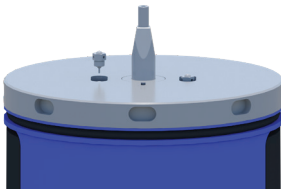

Figure 50
**5.0.4)** Hand tighten the auto-e pins into the check valves. Push down the pin to ensure it can actuate (see Figure 50).